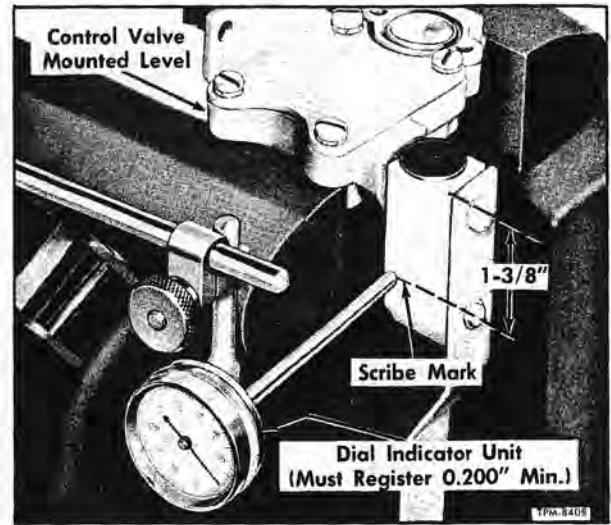
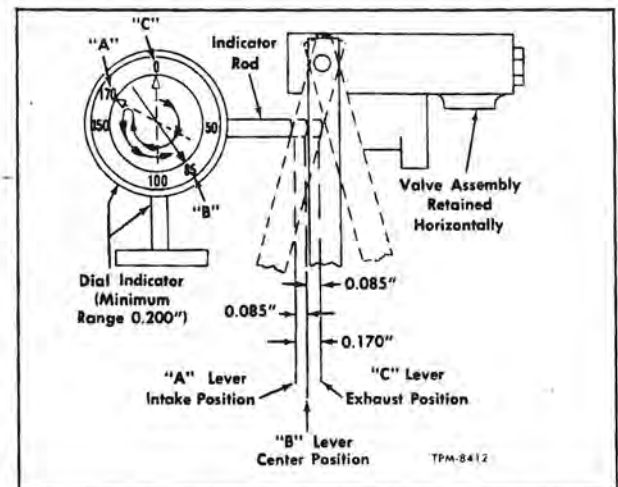

Figure 28—Dial Indicator Properly Installed
Figure 29—Locating Valve Overtravel Lever Center Position
- Referring to figure 28, scribe a line 1-3/8 inch from plug end of overtravel lever control body.
- Place valve assembly in vise as shown in figure 28.
- Locate dial indicator in position as shown in figure 28. Move overtravel lever to full air exhaust position - TOP OF DELAY PISTON FLUSH WITH TOP OF BORE - without overtraveling (position "C," fig. 29). Relocate indicator push rod to just contact 1-3/8 inch mark on control body and reset indicator dial to zero (0) at this point (position "C," fig. 29).
- Move overtravel lever to full air intake position without overtraveling (position "A," fig. 29) (delay piston at bottom of bore). Take indicator reading which may vary from 0.160" to 0.190".
- Divide the total travel dimension by two (example:  $0.170" \div 2 = 0.085"$ ), then move overtravel lever back this amount (0.085") to the center (position "B," fig. 29).
- IMPORTANT:** Without disturbing lever center position, reset indicator dial to zero (0), which actually is 0.100" on indicator of type registering 0.100" for each revolution of indicator needle, then proceed with valve lever gap adjustments following: